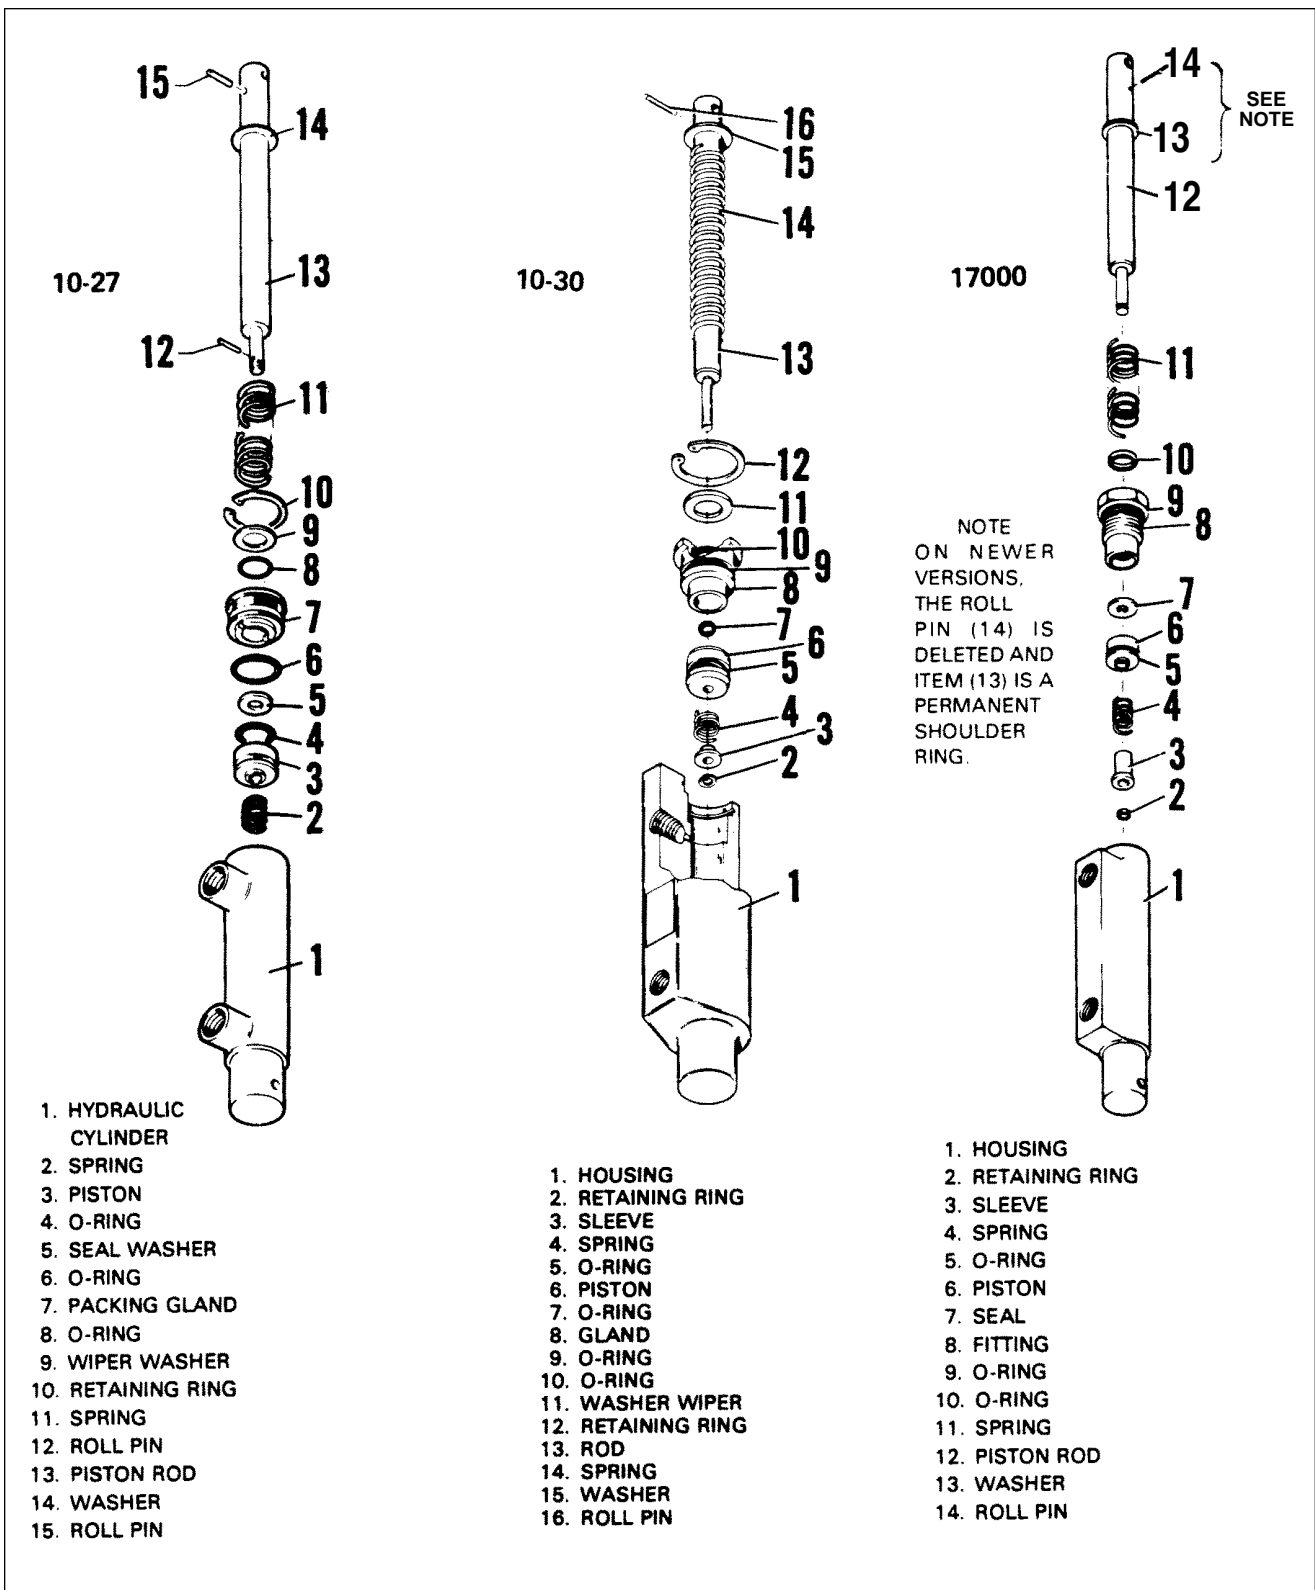

Figure 32-17. Brake Cylinder 10-27, 10-30, and 17000 (Toe Brake)
1. Cleveland cylinder number 10-27. (Refer to Figure 32-17.)
2. Cleveland cylinder number 10-30. (Refer to Figure 32-17.)
3. Gar-Kenyon cylinder number 17000. (Refer to Figure 32-17.)